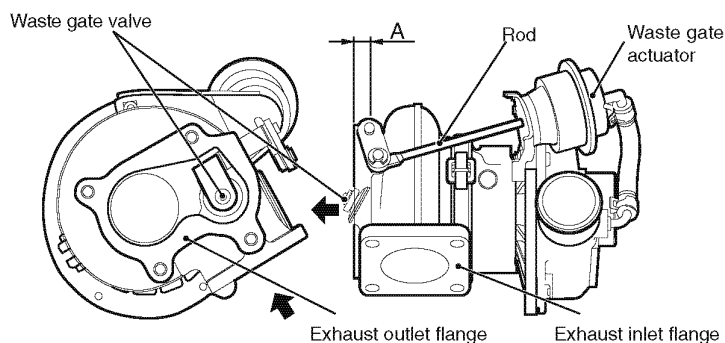

Figure 8-6
- When discharging exhaust gas from the turbocharger directly to the outside, a waste gate valve, located inside the exhaust outlet flange, protrudes from the flange surface during each stroke as shown (**Figure 8-6**). Provide enough space around the waste gate valve to prevent interference.